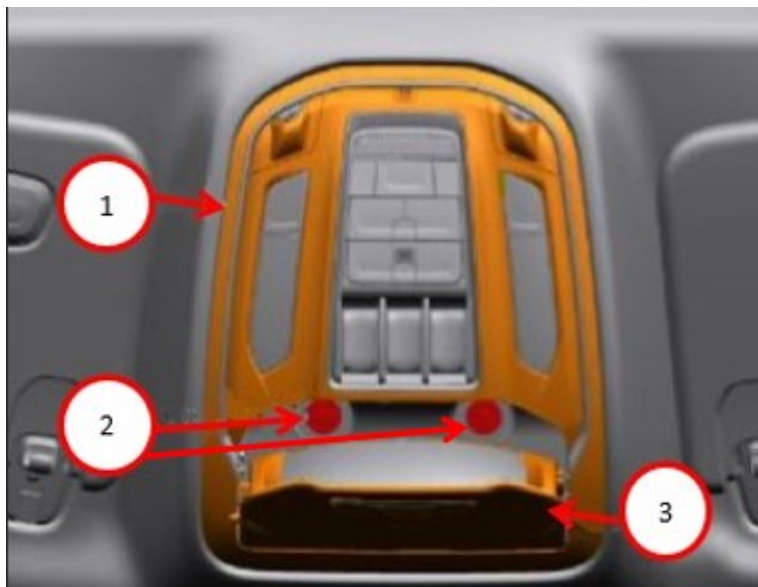

Fig. 2
1. Open the sunglass compartment and remove the two overhead console fasteners (Fig. 2) .